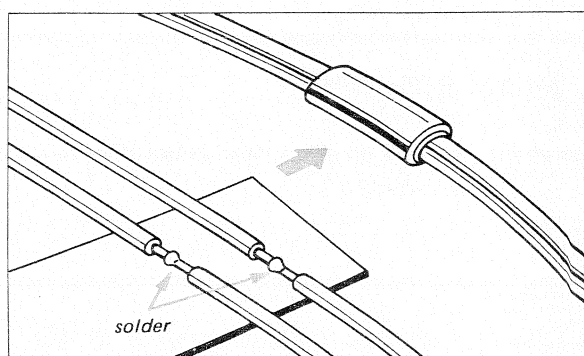

Fig. 2-8 Stereo lamp replacement
2. Cut the lamp leads in the middle and solder the lead wires to a new lamp as shown in Fig. 2-8.